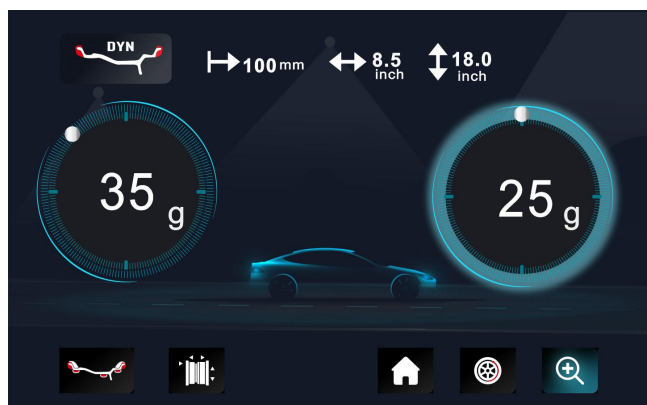

Fig.3
4.1.6. Press v, until the right LED lit up full, clip weight on 12 o'clock position (Fig.3)